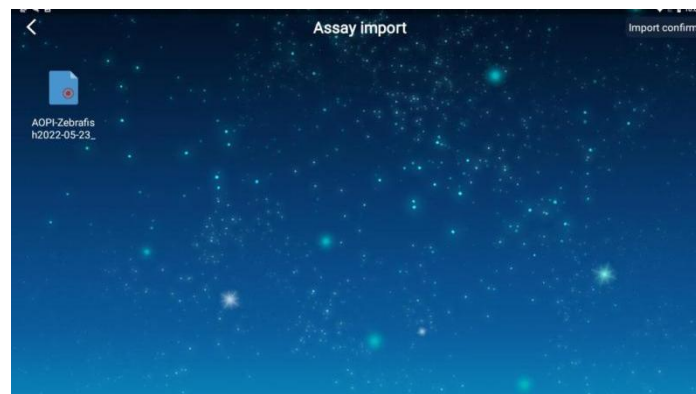

Fig. 2.43 Assay import interface
The user of a Countstar® Mira HT can upload conveniently a new, or customized BioApp (test assay template) from an external USB storage device to the internal database of the Countstar® Mira HT, through the "Assay Management" functional modules (see **Fig. 2.11**). In the upper right of this menu interface (see **Fig. 2.42**), a click on the icon **Import Assay** will open a window to display the root directory of the USB drive (see **Fig. 2.43**).
- ① User needs to upload the assay template file named "AOPI-Zebrafish" to a folder (named **exp**) on the USB device.
- ② Insert the USB device into one of the USB ports at the back of the Countstar® Mira HT.
- ③ When the user clicks on "Import assay", a user interface, showing the directory of the USB device (**Fig. 2.43**), will pop up to show all assay templates saved in the "exp" folder on the USB device. After the user have clicked on the "AOPI-Zebrafish" BioApp (in this example highlighted by a red spot on the screenshot) user interface, followed with a confirmation, the assay template is started to upload to template database of the Countstar® Mira HT.